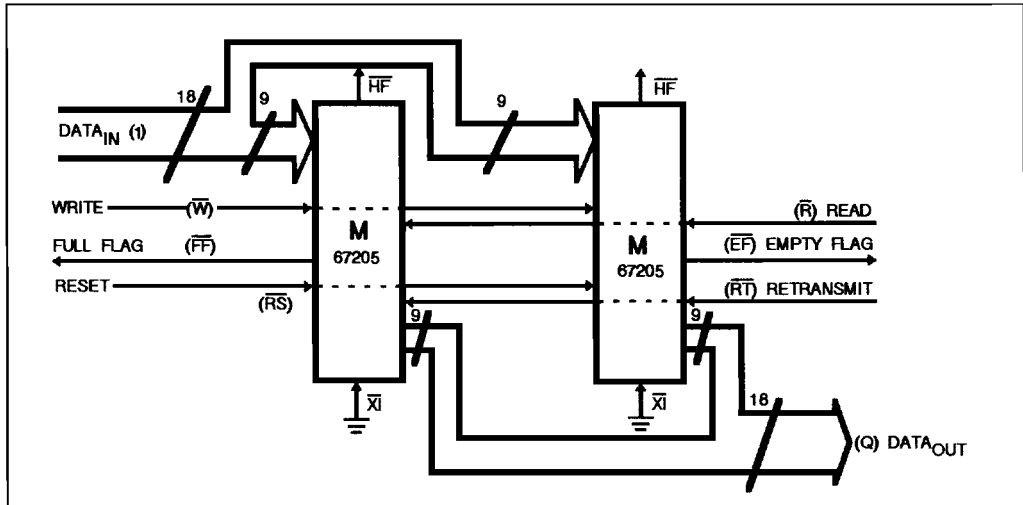

Figure 3 : Block Diagram of 8192 x 18 FIFO Memory Used In Width Expansion Mode.
device. Figure 3 demonstrates an 18-bit word width by using two M 67205. Any word width can be attained by adding additional M 67205.
7. For Flag detection see section on Width Expansion and Figure 3.